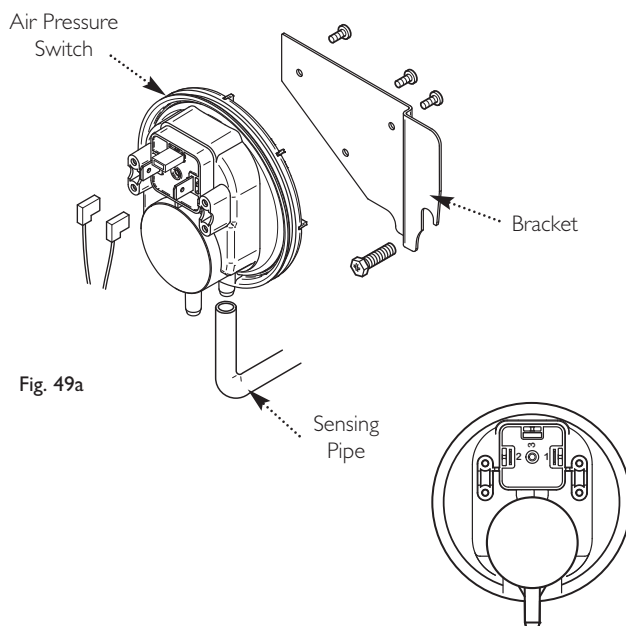

Fig. 49a
13.3 Air Pressure Switch (Fig. 49a)